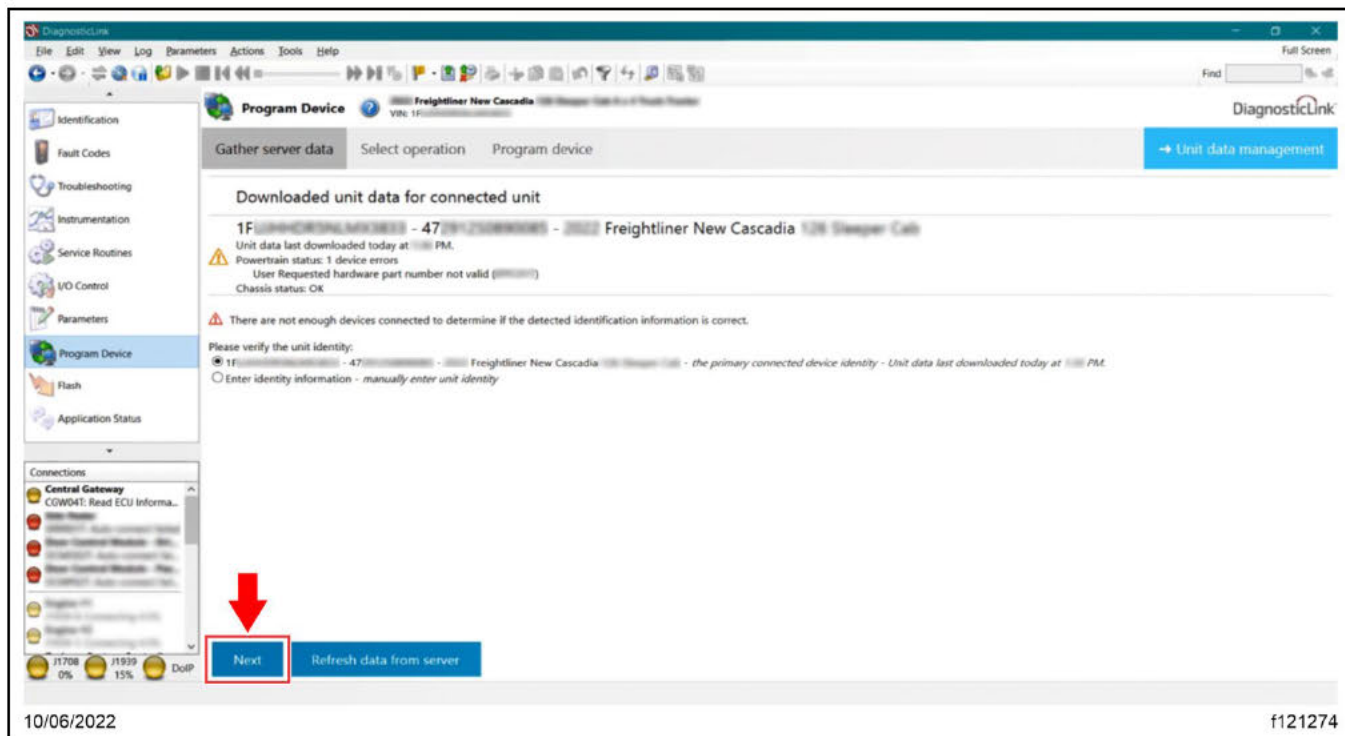

Fig. 4, Latest Data Retrieved
9. Once the latest data is retrieved, select 'Next.' See Fig. 4.